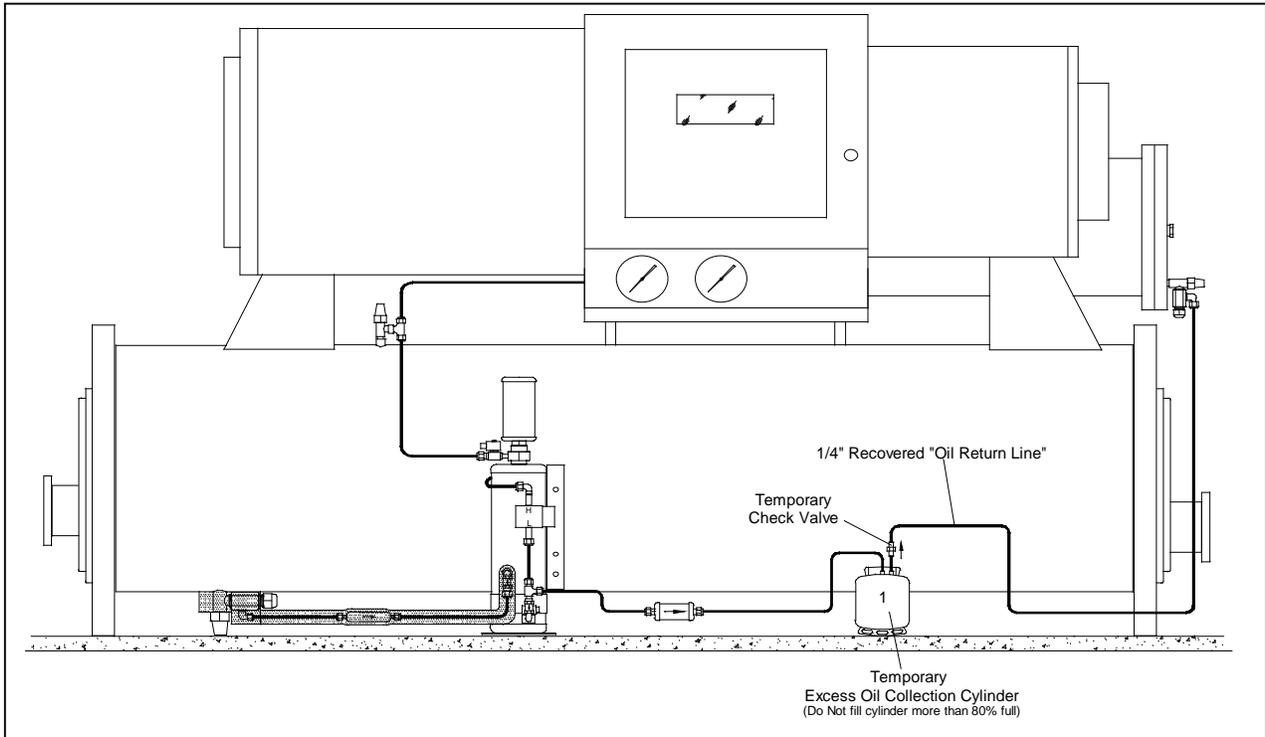

Figure 3. - CORRECT Optional Oil Collection Cylinder Hook-up
Option 2: Plumb the **“Oil Return Line”** as per **“Option (2)” Piping Instructions (see page 20)**. As determined by previous calculation, install sufficient containment capacity, **such as a single 50, 100, 200, etc., pound refrigerant recovery cylinder**, in the **“Oil Return”** line between the OAM Purger and the Chiller’s oil sump. The cylinder will retain and hold the excess oil as it is stripped from the refrigerant, preventing it from accumulating in the oil sump. **(See Figures 3 & 4 on page 22 which includes approximate oil holding capacities of various size refrigerant recovery cylinders.)** Once the stripping process is complete the cylinder and excess oil must be removed from the system.
CAUTION: **DO NOT** connect multiple cylinders in series. The excess oil collection hook-up **MUST** be limited to a single cylinder: i.e., a single 50, 100, or 200 lb., etc. cylinder, and **MUST** not be filled to more than 80% of its rated liquid capacity. **NOTE** that the refrigerant cylinder will not hold the same weight of Oil as refrigerant. (See Figures 3 & 4 on page 22 which indicates the approximate oil holding capacities of various size refrigerant recovery cylinders.)
2. Plumb the selected excess oil containment vessel in the Oil-Return line **precisely** as illustrated in **Figure 3 on page 22**. Install the **temporary check valve** (provided in the OAM Purger Installation Kit) in the oil return line between the containment vessel and the oil sump, **precisely** as shown in figure 3, on page 22. The **Temporary check valve MUST** be
CAUTION: Option (2) is intended only as a convenient method of dealing with excess oil. You **MUST** still occasionally monitor the oil sump for excessive oil accumulation since there may be more excess oil than anticipated. Refer to approximate oil holding capacities of the refrigerant recovery cylinders under Figure 3 on page 22.